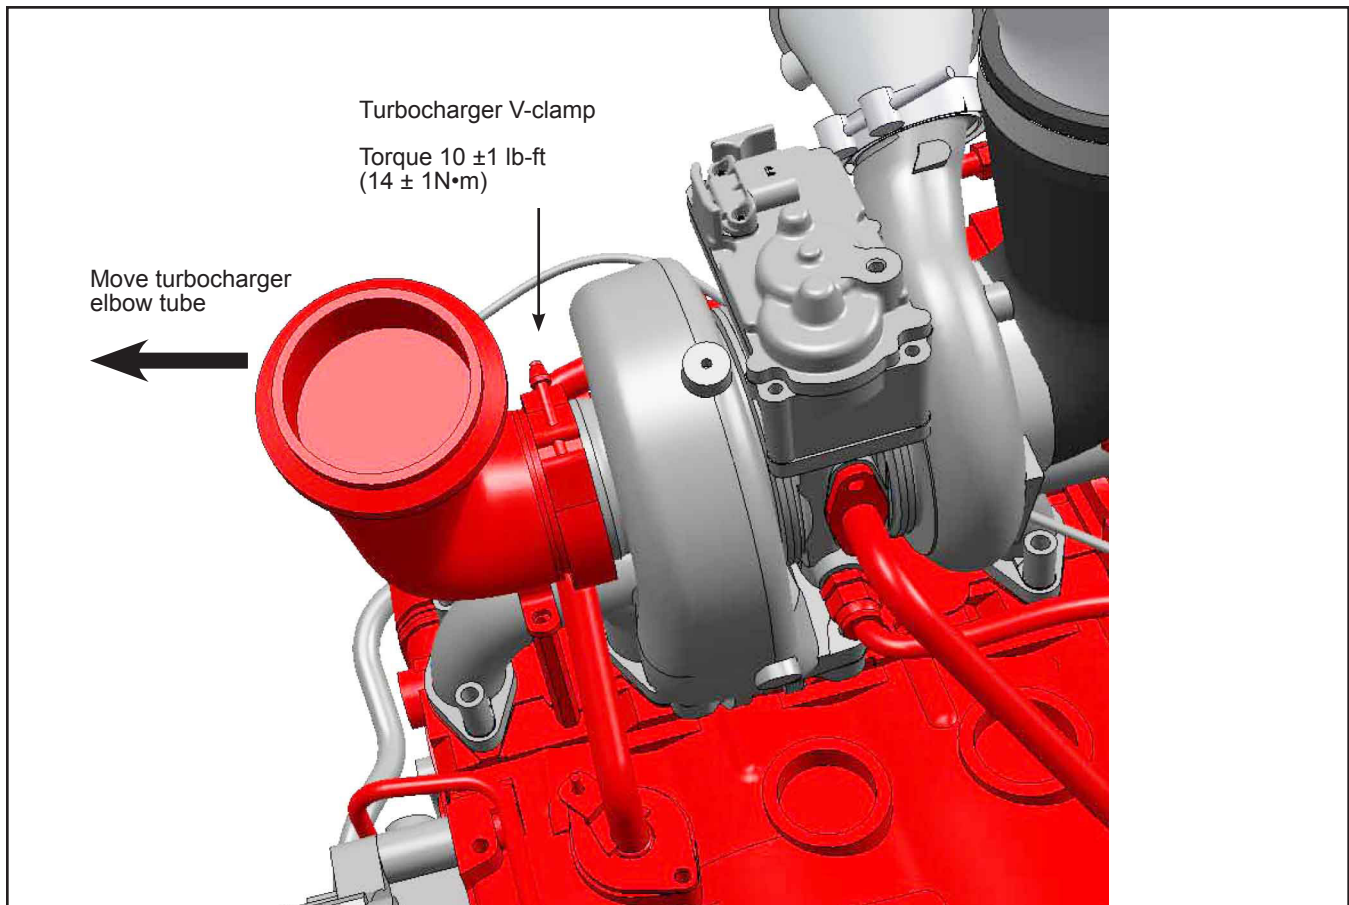

Figure 2 - Turbocharger V-clamp
- 1.4. Remove and discard the turbocharger V-clamp. See Figure 2.
- 1.11. Attach the elbow tube to the turbocharger with the new N8893518 V-clamp. See Figure 2.
- 1.12. Tighten the V-clamp to the torque specified in Figure 2.